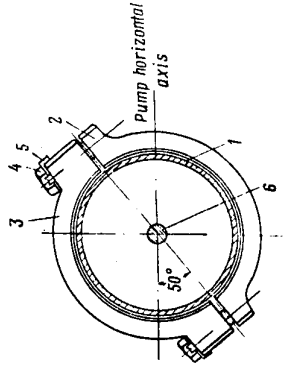

Fig. 16. Arrangement of Half-Rings of HP-10A Pump-to-Accessory Drive Gear Box Quick-Release Joint
24. Turn down the bolts securing the half-rings having fitted locking washers under the bolt heads; lock the bolts. The parting line of the quick-released joint half-rings should be located approximately at an angle of  $50^\circ$  relative to the pump horizontal axis (Fig.16).